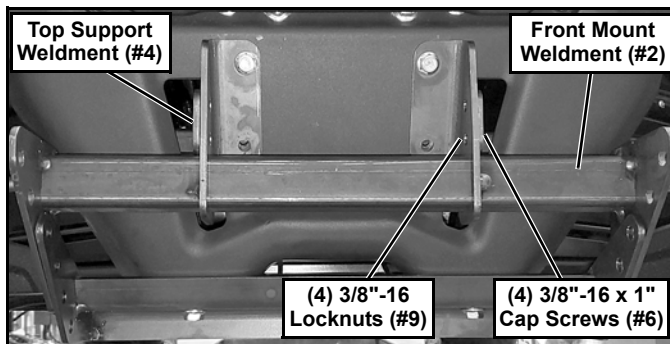

Figure 4
- Attach the Front Mount Weldment (#2) where the 2" receiver hitch was attached. Secure into position with M8 bolts that were removed from the hitch. Also, secure the Top Support Weldment (#4) to the Front Mount Weldment (#2) with (4) 3/8"-16 X 1" Cap Screws (#6) and (4) 3/8"-16 Locknuts (#9) (See Figure 4).